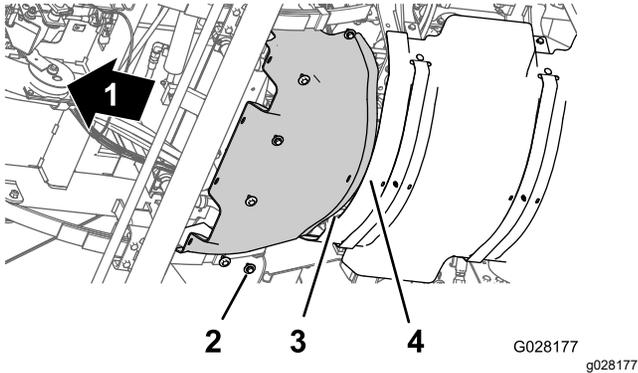

Figure 63
1. Align the rear flange of the forward heat shield over the forward flange of the rear heat shield (Figure 63).
2. Align the holes in the forward heat shield with the threaded holes in the chassis (Figure 63).
3. Assemble the forward heat shield to the machine with the 6 hex-head bolts and 6 washers (Figure 63) that you removed in step 3 of Removing the Forward Heat Shield (page 50).